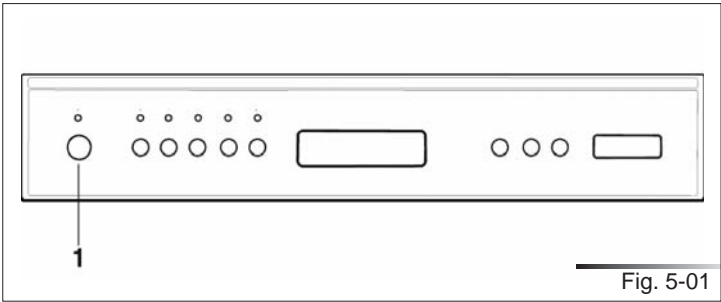

Fig. 5-01
- open and close the door, or switch the appliance off and back on again by pressing the relative button (ref. 1 fig. 5-01). At this point, the dishwasher can be programmed again.